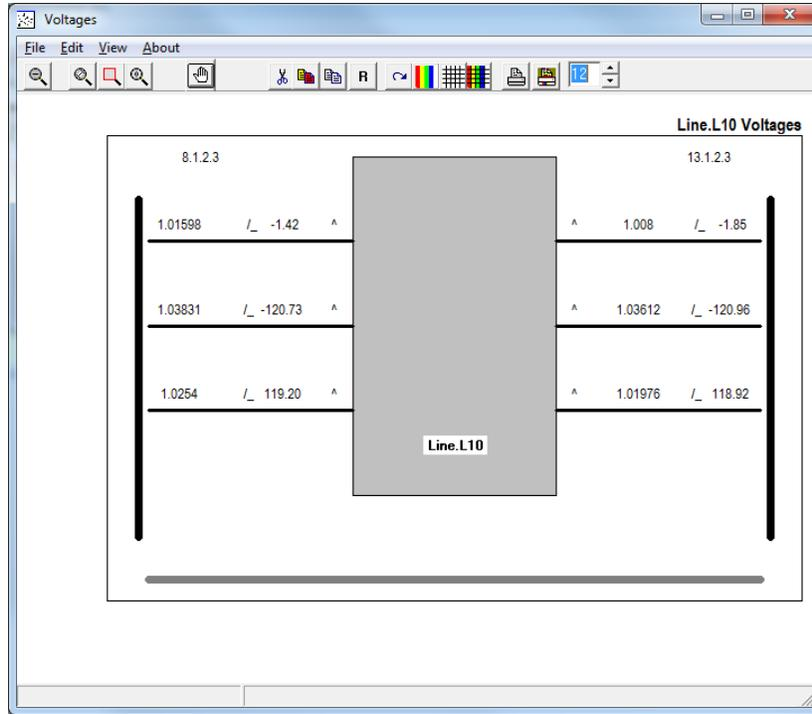

Figure 5. Voltage Visualization for a Line Element
- a. *Looking at a branch, transformer, load, or other element in the system* – To do this, first select the element type and then the element from the element toolbar. Then select the C, V, or P buttons to see a current, voltage, or power visualization. Select the  button to edit the element. An example of a voltage visualization for a line is provided in Figure 5.